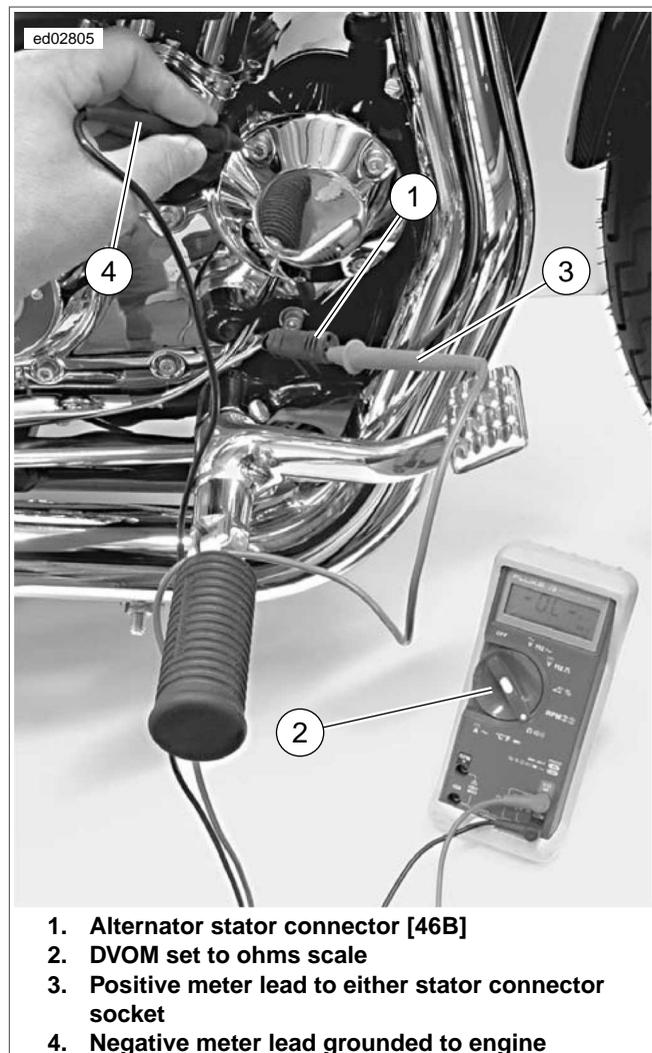

Figure 1-19. Test for Grounded Stator
- b. See Figure 1-19. Insert one ohmmeter lead into a stator connector (1) socket.
- c. Attach the other lead to a suitable ground (4).
3. Test for continuity with ohmmeter set to the ohms scale (2).